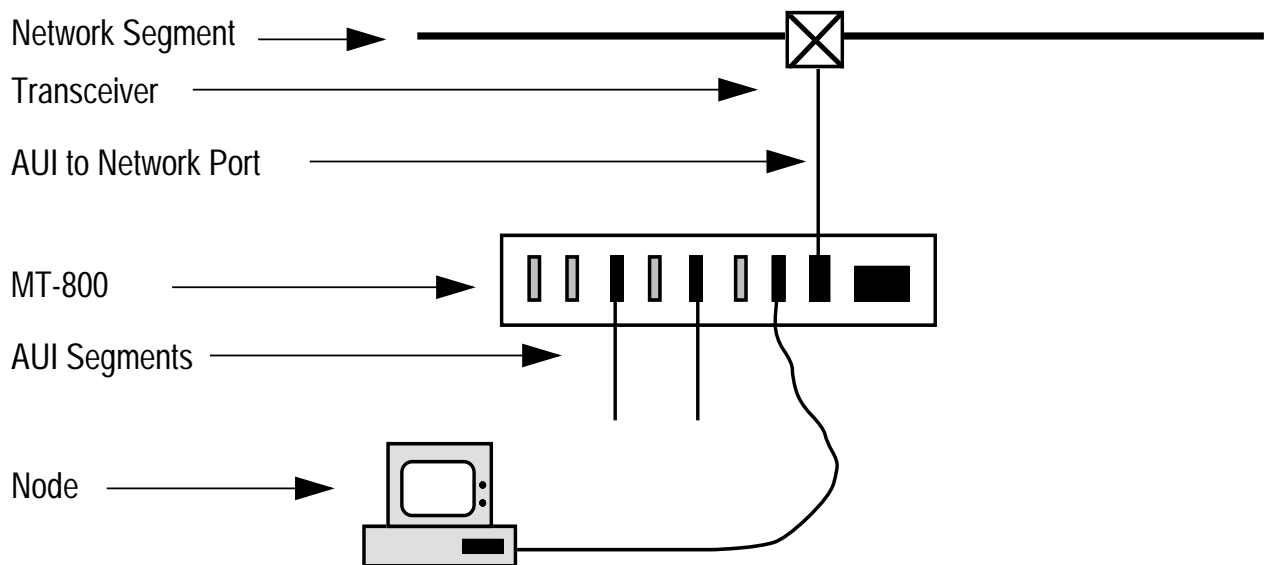

Figure 2-2. MT-800 in Network Configuration
- b. When one MT-800 is being used in the network mode (Fig. 2-2), the total AUI length, as measured from the network transceiver to the end device, must not exceed 40 meters.